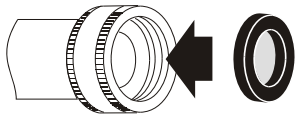

Figure 1
1. Insert a new flat washer into each end of the inlet hoses. Firmly seat the washers in the coupling. ( As figure 1)